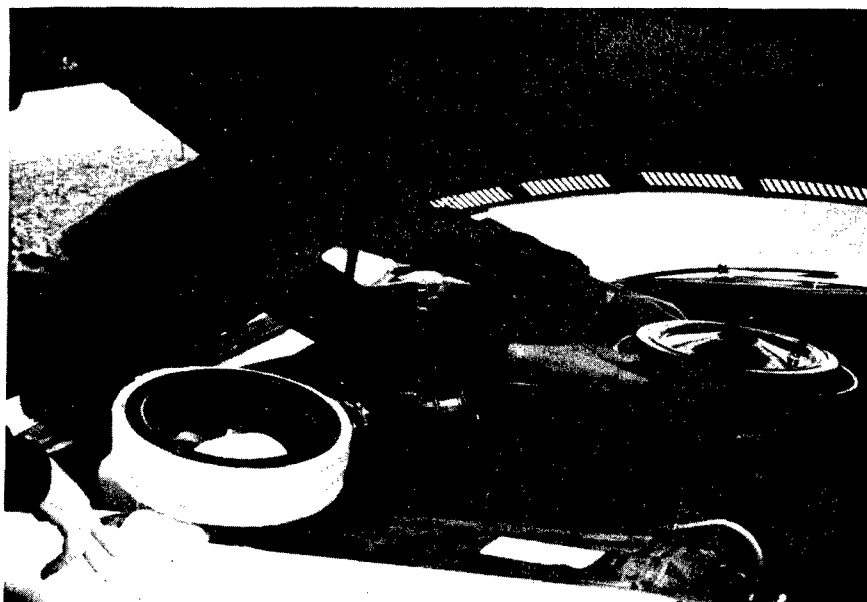

Figure 1
1. The standard automotive filter element can be covered with one or more supplementary medias which will hold large amounts of dust and can be easily removed, shook out and reinstalled, Fig 1. The service period will not be extended by the use of the supplementary media, but the overall life of the standard automotive filter element will be increased and the filter will be easier to clean. The filter element wrap is a combination of two different materials which were found to be most effective in laboratory tests and later confirmed by vehicle tests in ash fallout areas. The bulk filter materials are identified as follows: